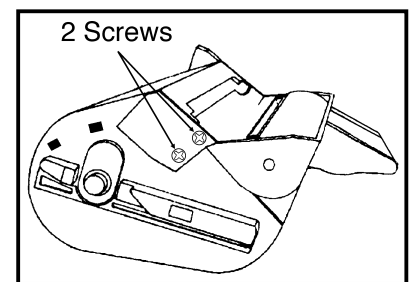
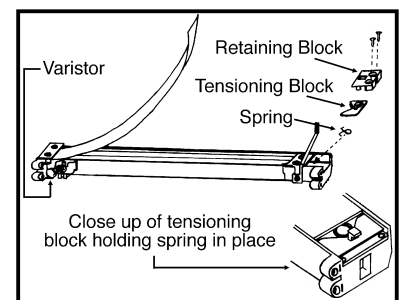
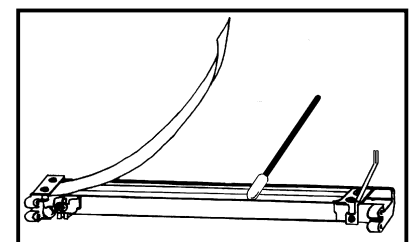

Figure 2
Figure 3
Figure 4
3. Remove the metal phillips head screws (2) securing each end of the corona assembly (Fig. 2). Remove the assembly by lifting it straight up (Fig. 2). Turn the cartridge over and remove drum axle while holding the end of the drum.
- a. Remove the screws (2) on the gear end of the drum.
6. The corona wire is tricky to clean if you want to disassemble it. Begin by removing the 2 clear plastic screws from each end of the unit. When you loosen the 2 on the right end of the unit you will hear a small popping noise. This is the sound of a spring snapping past a plastic tensioning block. Remove the 2 screws and retaining block. When you lift the retaining block off you will see a tensioning block and a pressure spring. Be sure not to lose the block and spring (Fig. 3).
7. Lift the right end of the corona grid and clean the wire with a cotton swab (Fig. 4). The tensioning block must be pushed in to allow the grid to drop over the locking post. You must hold the block down or the spring will pop it off. Now put the retaining block back in place keeping tension on it to prevent it from popping off. Insert the two screws and tighten them. Use compressed air to clean the rest rest of the corona assembly. The last thing to be done to the corona assembly is to replace the varistor (Fig. 3) located on the left end of the corona assembly. The original varistor must be removed by de-soldering one lead and removing the screw from the second lead. To replace the varistor, resolder the one lead onto the copper tab and wrap the other lead clockwise around the screw one turn, then tighten the screw.